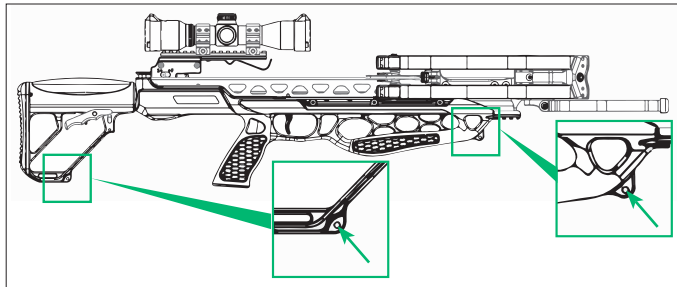

FIGURE 11
1. The CP400 has sling mounting holes located on the forend and buttstock (Fig. 11).